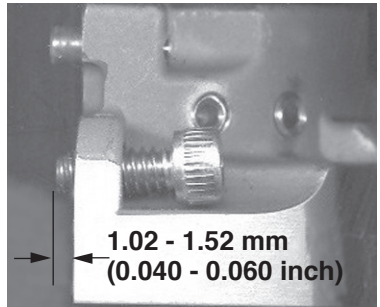

Figure 13
5.6 Coat a seal drive cap screw with anti-seize and install it through the clearance hole until it protrudes 1.02 to 1.52 mm (0.040 to 0.60 inch) past the seal drive joint. See Figure 13.